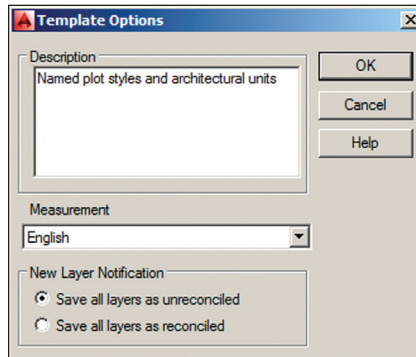

FIGURE 14.8 Describing the template
6. Type Named plot styles and architectural units in the Template Options dialog box that appears (see Figure 14.8). Click OK.